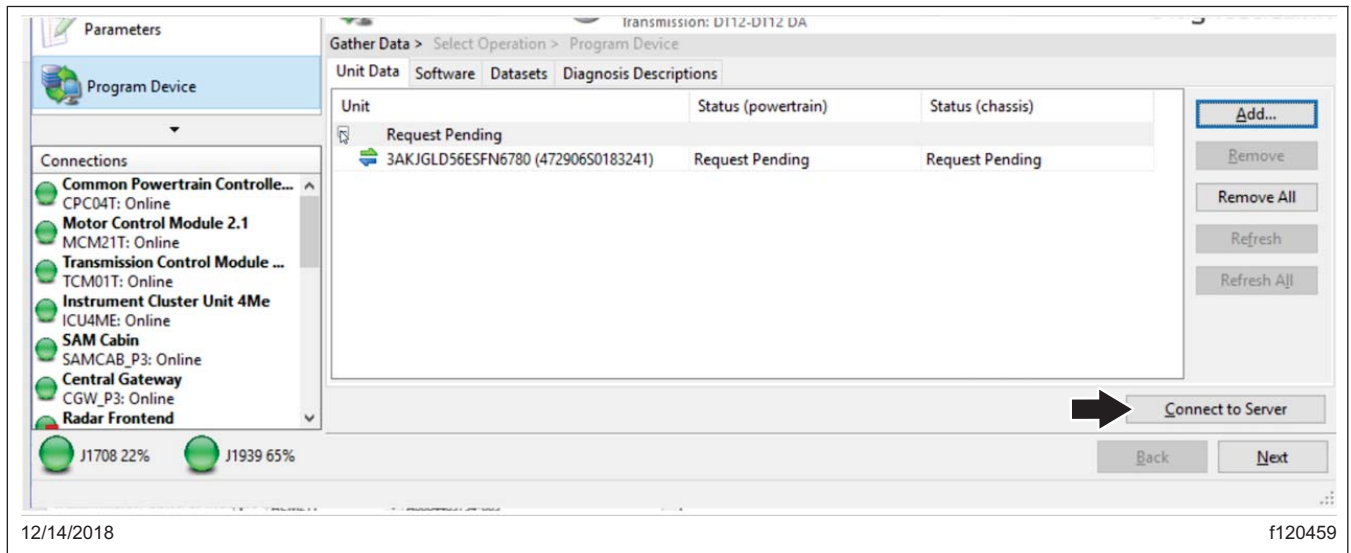

Fig. 7, Downloading Updated Unit Data
8. There should be a request pending status for the VIN. Click "connect to server" to download the updated unit data. See Fig. 7. The server will provide any new software available on the server as well as updated parameter sets for the new software, adjusted for the parameter set that was just uploaded from the vehicle.